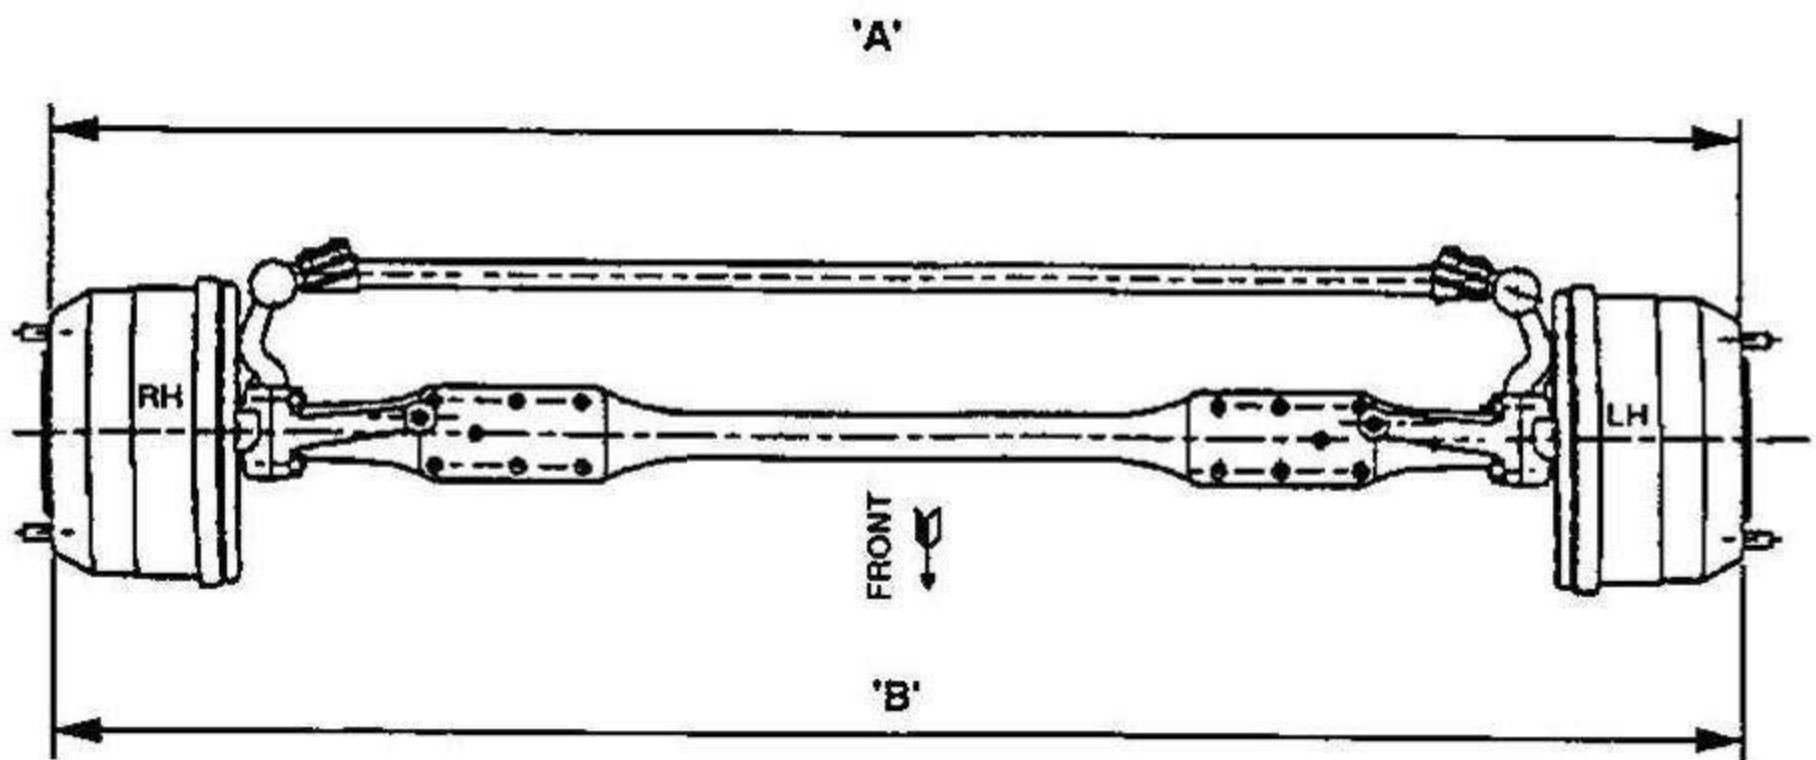

Fig. 9
- f) Check wheel alignment as follows (fig. 9)
- ii) At a point level with wheel centre, measure distance over brake drums (4), both in front and behind axle centre.
- iv) Any adjustment can be effected by slackening clamp bolts in ball sockets (39) and rotating track rod tube .
- i) Fit road wheels and secure in position with wheel nuts (6).